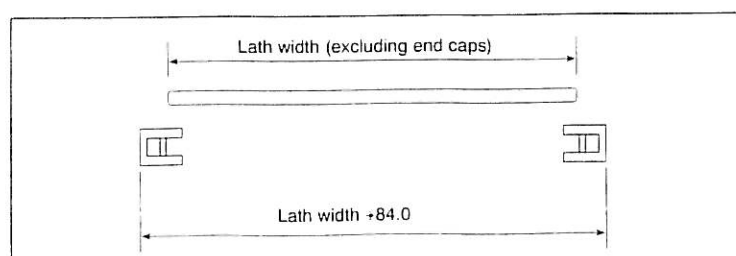

Fig 14
**NB:** Some width adjustment is available on the sliding shaft end of the axle, the correct distance is shown in Fig 14.
**NOTE:** Some width adjustment is available on the sliding shaft end of the axle. The correct distance apart is shown in Fig 14.